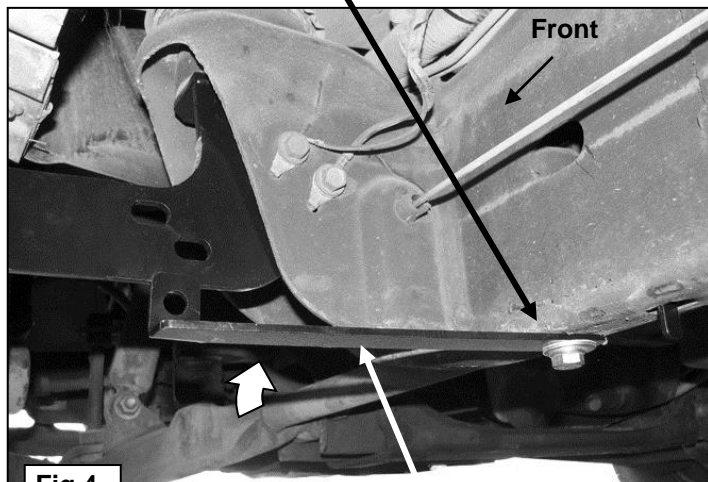

Fig 4
Note that the Front Support Bracket will not reach up to the Mounting Bracket, (Figures 3 & 4). Tighten the Support Bracket to the Nut Plate in the frame. Carefully push up on the Support Bracket until it reaches the inside hole in the Mounting Bracket, (Figure 4). Bolt the Support Bracket to the hole in the Mounting Bracket with (1) 10mm x 30mm Hex Bolt, (2) 10mm Flat Washers, (1) 10mm Lock Washer and (1) 10mm Hex Nut. Do not tighten at this time.